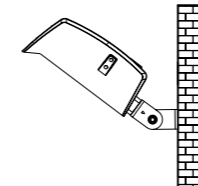

Figure 5.4
STEP 3: Loosen screw; Adjust fixture angles as per actual demands and tighten screws later.(Figure 5.4), Tips:Angles of the fixture is adjustable